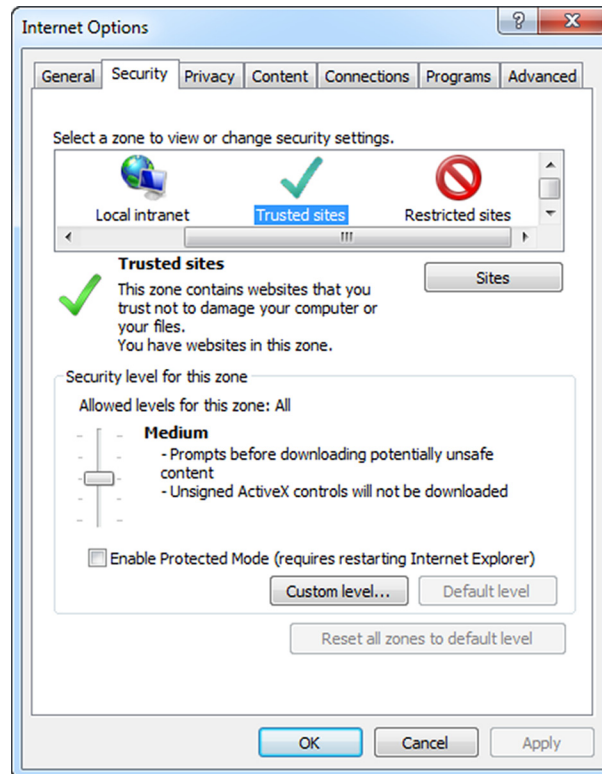

FIGURE 3-9
- a) From the *Tools* menu, select the **Internet Options** option. The *Internet Options* window is displayed (see FIGURE 3-9).